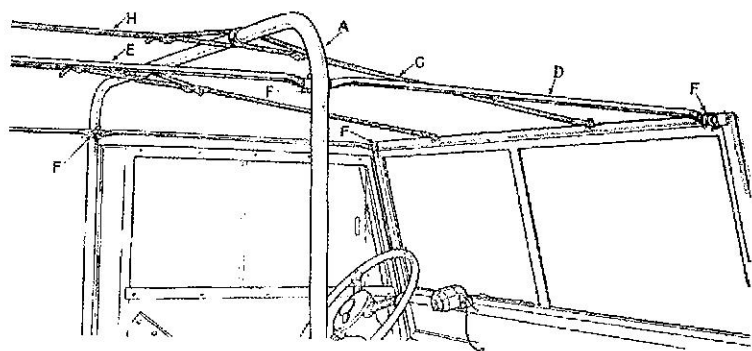

Fig. 40. Front hood straps and stays.
Next select the four thin cranked tubular stays which are fitted between the windscreen and hood-sticks. The two shorter stays (D) with thumbscrews at one end should be fitted between the windscreen and front hood-stick so that the cranks throw the stays outwards; at each end the slot slips down behind the washer under the thumbscrew on the bracket. Fit the longer stays (E) in a similar way between the front and rear hood-sticks and tighten the four thumbscrews (F). (Fig. 40).